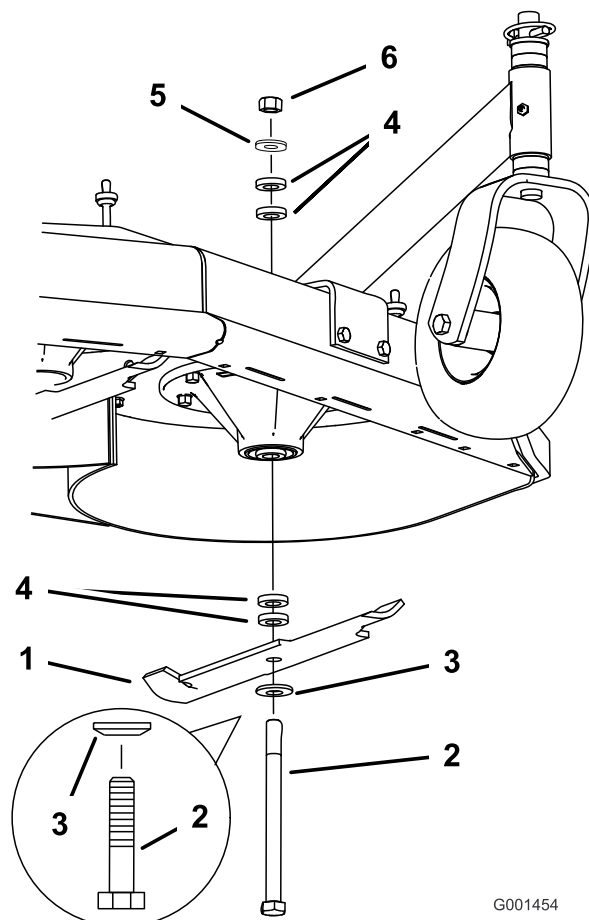

Figure 66
2. Remove the nut, blade bolt, curved washer, blade, spacers, and thin washer from the spindle (Figure 66).
1. Install the bolt, curved washer, and blade. Select the proper number of spacer(s) for the height-of- cut, and slide the bolt into the spindle (Figure 66).
2. Install the remaining spacer(s) and secure them with a thin washer and a nut (Figure 66).